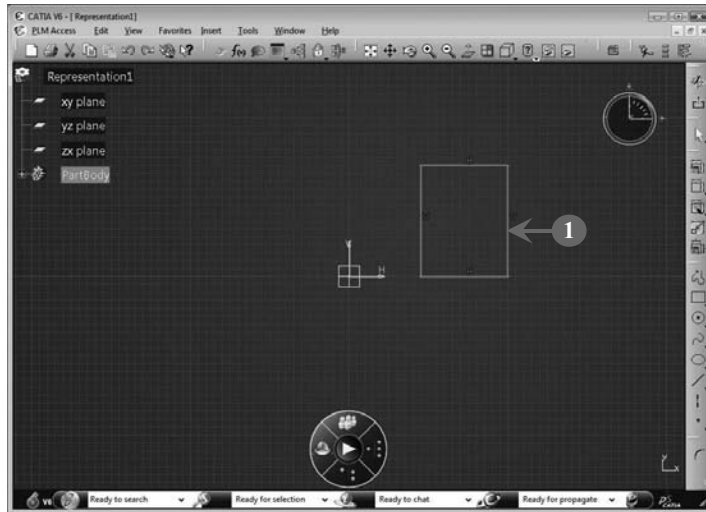

FIGURE 2.69
1. *Select* the sketch that you want to scale. In our case, we have selected all the sides of a rectangle, as shown in **Figure 2.69**: